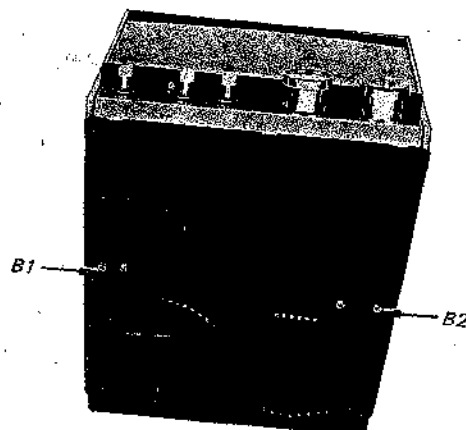

Fig. 2-3.
3. Remove the two screws labeled B1, B2 in Fig. 2-3.